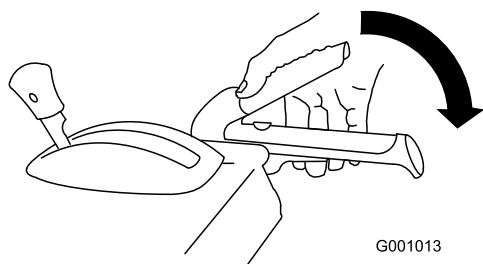

Figure 33
2. Engage the auger/impeller lever and hold it in place (Figure 33).